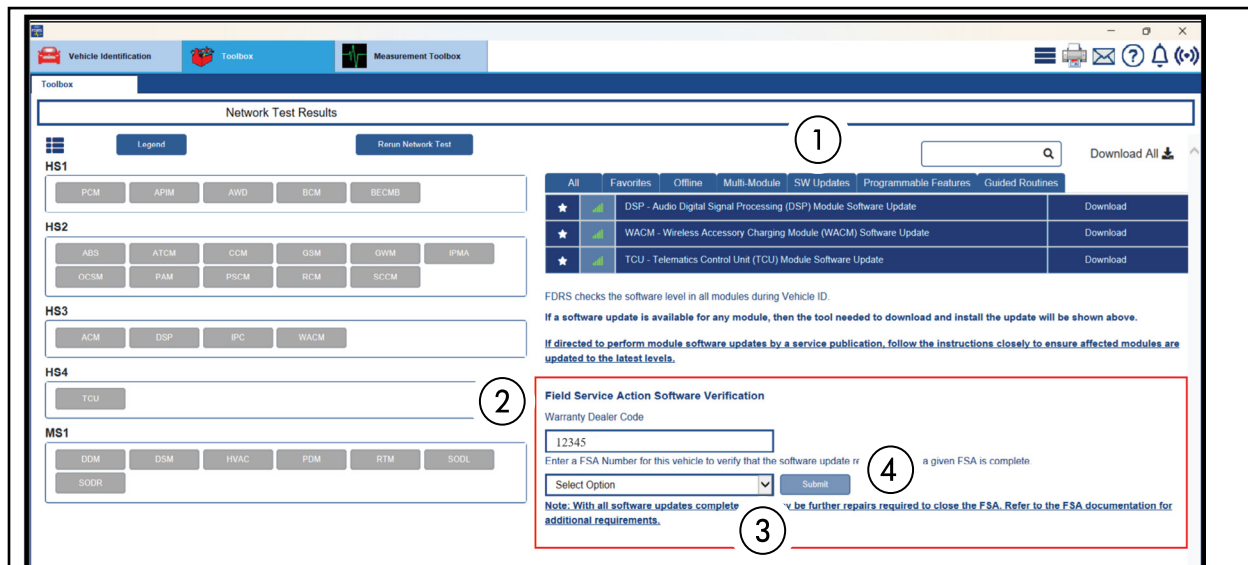

FIGURE 3
- b. Wait ten (10) minutes.
40. Select the **SW Updates** tab (1). See Figure 3.
41 **Warranty Dealer Code** (2) - Change the displayed PA code as necessary. See Figure 3.
42. Select the **FSA** (3) from the drop-down menu. See Figure 3.
43. Select **Submit** (4). See Figure 3.